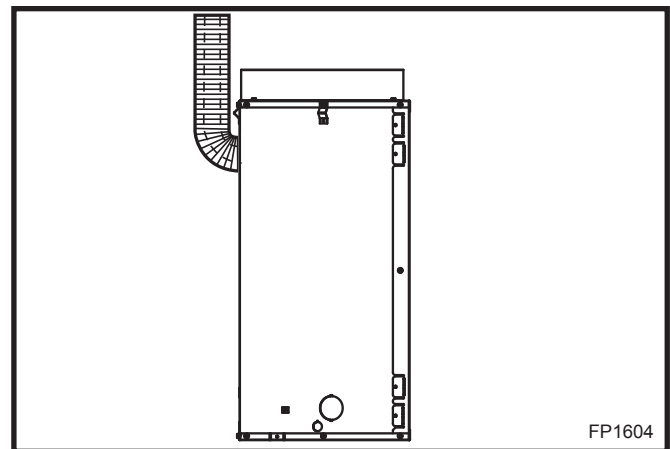

Fig. 17 Bend flex pipe up 90° as close to fireplace as possible.
6. Bend the flex pipe up 90° as close to the fireplace as possible. (Fig. 17)